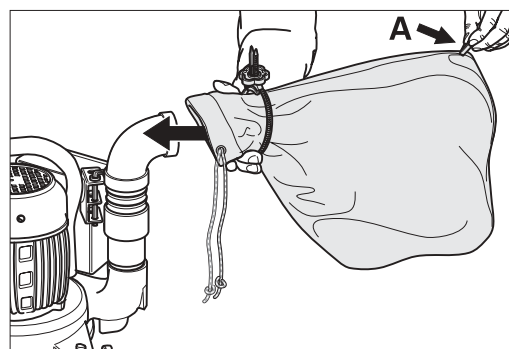

Fig. 3: Pull the dust bag over the suction pipe stub. The sling A must be on top.
- 3 Pull the opening of the dust bag over the suction pipe stub of the machine. Make sure that the sling on the dust bag is on top (Fig. 3).